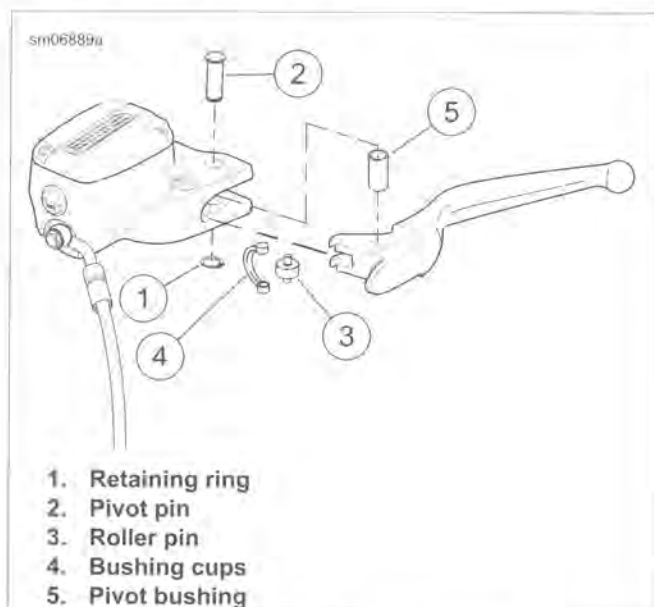

Figure 2-93. Clutch Hand Lever
2. See Figure 2-93. Remove the retaining ring (1) from the pivot pin (2).
4. Remove pivot bushing (5).
1. See Figure 2-93. Lightly grease pivot bushing (5) and install into clutch hand lever pivot hole. Position bushing flush with both sides of lever.